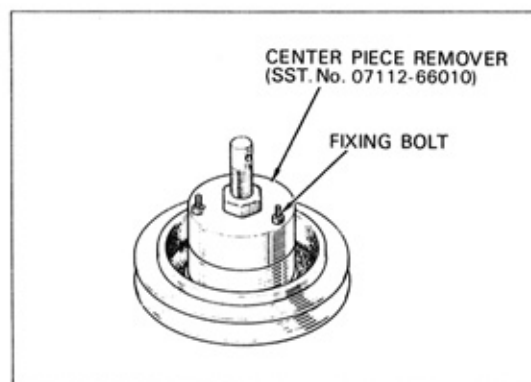
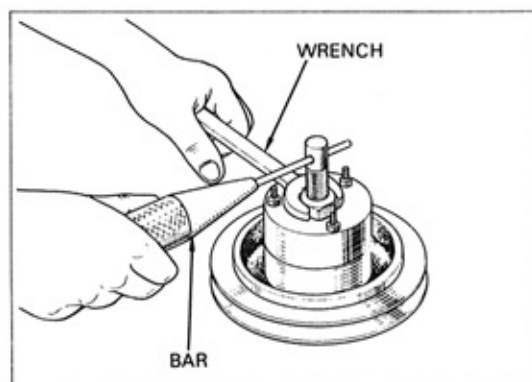

Fig. 67
Fig. 68
- b) Set the center piece remover (SST No. 07112-66010) to the pulley boss as shown in Fig. 67. Then turning the bolt of center piece remover, and separate the clutch center piece from the pulley. (See Fig. 68.)